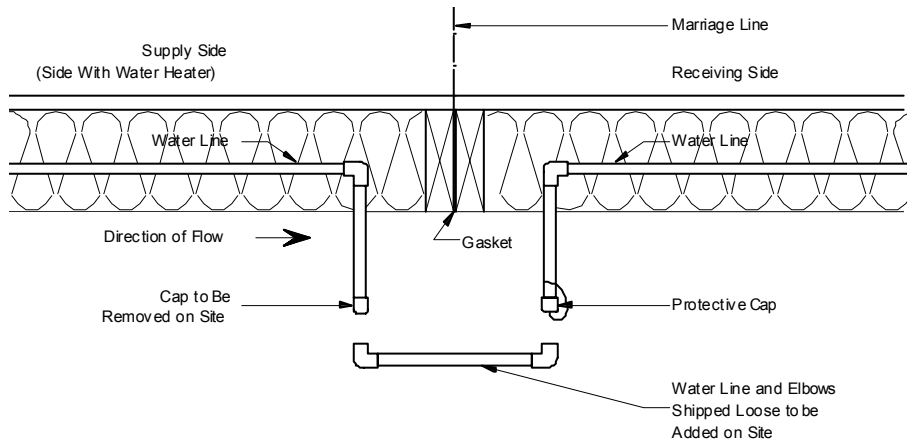

Figure 71. Water line crossover through bottom board
2. **Connect pipes.** Connect threaded water lines using flexible pipe or a rigid connector line (if provided) and connector fittings (do not use lubricants or sealants). Connect non-threaded water lines, pipe, and elbows with cement provided, inserting pipe to full depth of each fitting (**Figure 71**).